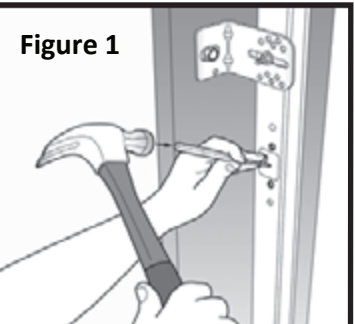

Figure 1
Step 1: (Right Side) Using a hammer and punch, knock out the pre-punched rectangular metal tab from the Horizontal Track (Fig 1).
Step 1: Measure horizontally across the top of your Header (Fig 1). This may require two people to hold the tape measure.